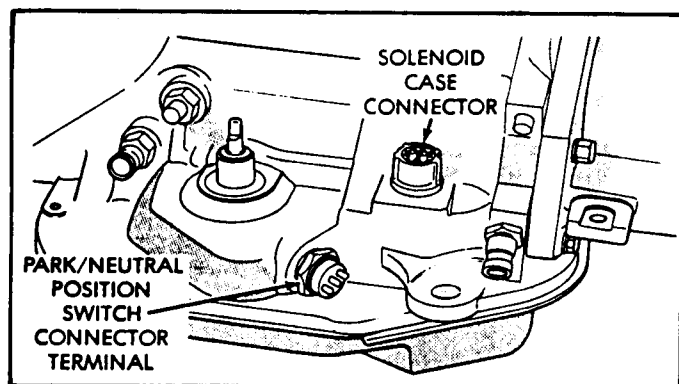

Figure 9
17. Remove the Park/Neutral switch from the case (See Figure 9).